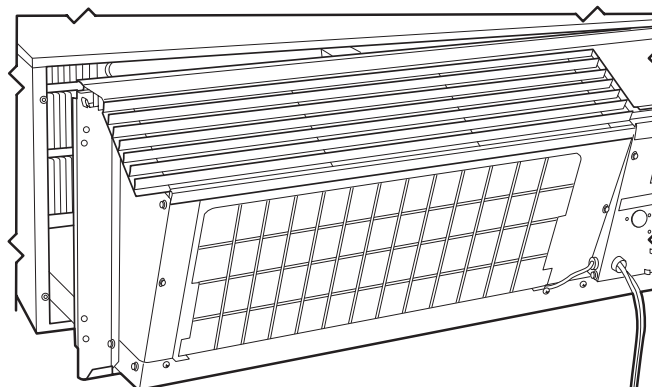

FIGURE 9 — PARTIAL REMOVAL OF CHASSIS FROM WALL SLEEVE
5. Carefully slide the chassis away from the extension duct and remove from the sleeve (as shown in Figure 9).